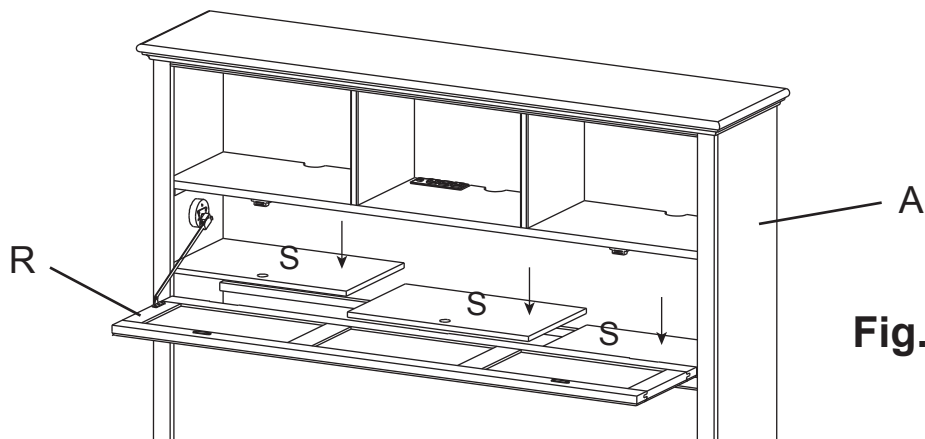

Fig. 16
- 16.** Unwrap the False Bottoms (S) and place them on top of the rails in the Headboard Assembly (A). Make sure the finger holes face forward as shown in Figure 16.